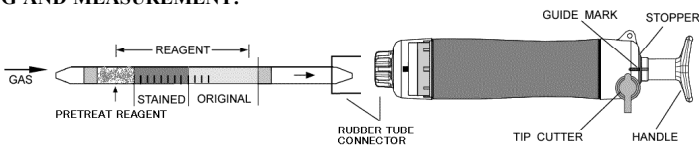

Fig.1
- ② Insert the detector tube into the aspirating pump securely as shown in Fig.1. (Arrow mark shall point to the pump.)
- ③ Align the guide marks on the shaft and stopper of the aspirating pump.
- ④ Pull the pump handle at a full stroke until it locks and wait for 45 seconds or until the completion of sampling is confirmed with the flow indicator of the pump (See descriptions about the flow indicator in the instruction manual of the pump).
- ⑤ On completion of sampling, read the scale at the maximum point of the stained layer.
- ⑥ When the concentration is over the scale range, 1/2 pump strokes can be used to determine concentrations of 125 to 1250 ppm.